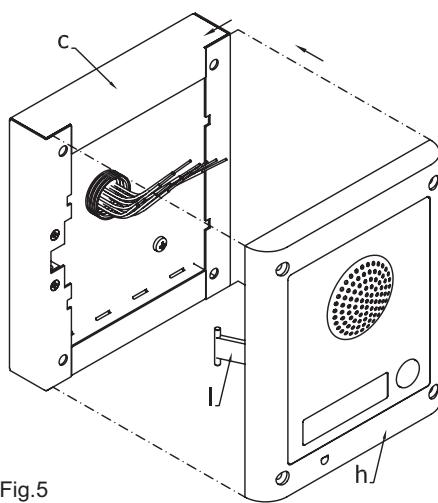
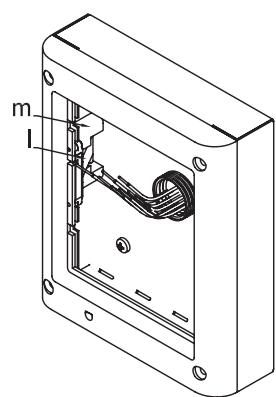

Fig.5
Fig.6
5. As shown in figure 5, hook the module support frame **h** (complete with modules) to surface box **c** moving the frame as suggested from pointers. Ensure that the pivot **I** (fig.5) goes inside the relevant housing **m** as shown in figure 6.